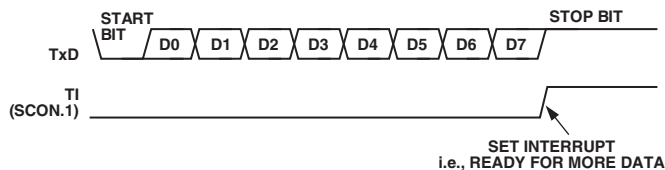

Figure 33. UART Serial Port Transmission, Mode 0
Transmission is initiated by writing to SBUF. The “write to SBUF” signal also loads a 1 (stop bit) into the ninth bit position of the transmit shift register. The data is output bit by bit until the stop bit appears on TxD and the transmit interrupt flag (TI) is automatically set, as shown in Figure 33.